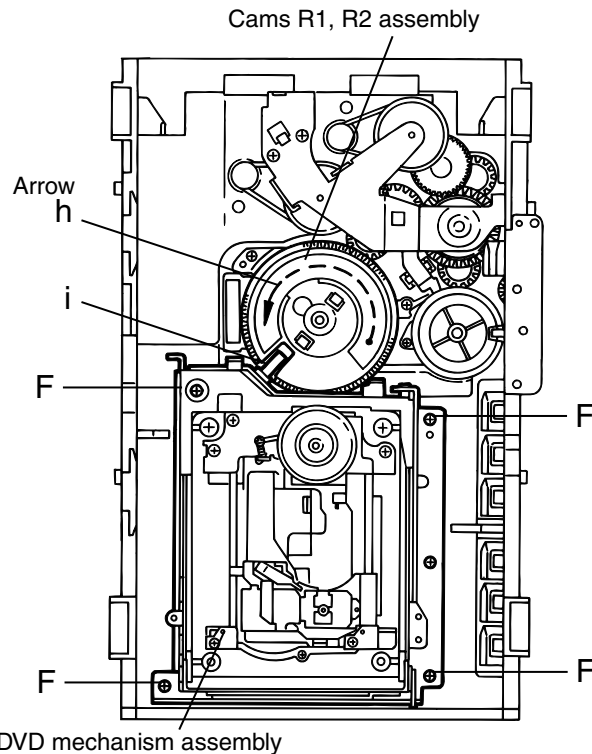

Fig.10
**■ Removing the DVD mechanism assembly(See Fig.10)**
1. While turning the cams R1 and R2 assembly in the arrow direction h , align the shaft i of the DVD mechanism assembly to the position shown in Fig.10.